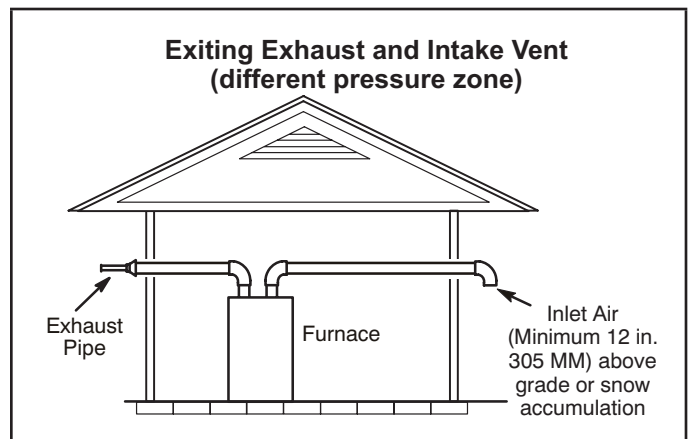
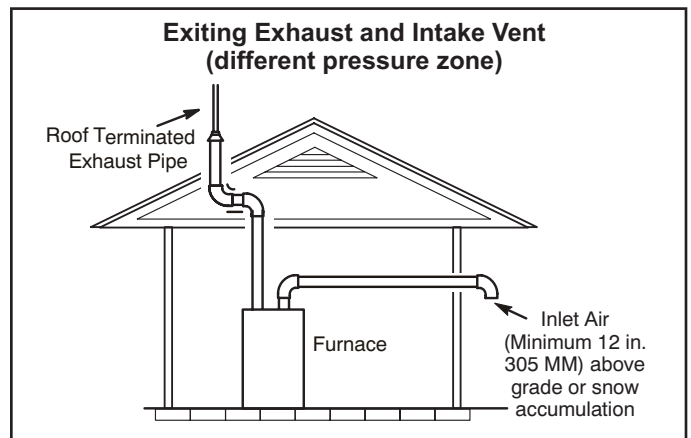

FIGURE 25
FIGURE 26
- 1 - Intake and exhaust terminations are not required to be in the same pressure zone. You may exit the intake on one side of the structure and the exhaust on another side (figure 25). You may exit the exhaust out the roof and the intake out the side of the structure (figure 26).